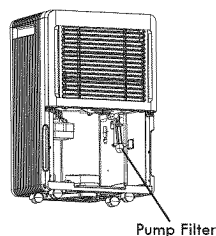

Figure 18
- Remove the bucket, reach up and gently pull down the pump input hose. Gently pry the filter off the end of the hose and clean it, then replace it, and push the input hose back up in the locked position (See Fig. 18).